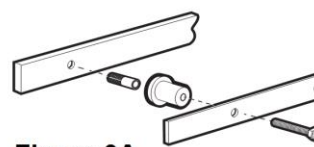

Figure 3A
Drill pilot hole. Insert lag bolt (X) through the first track hole, then place the track spacer (S) through the bolt on back of the track. Install the lag bolt with 1/2" socket ratchet. Do not tighten fully. Swing the track up and use the level to ensure the track is straight. Mark the remaining holes in the track. Drill remaining pilot holes. Slide the stopper (T) onto the track for the end of the track where you installed the first bolt so it is between the first and second holes on that end of the track. Install the next bolt and spacer at this end of the track. Install the remaining bolts and spacers. Go back and fully tighten the first bolt. Slide the remaining stopper onto the other end of the track. Do not set either stopper at this point. Refer to Figures 3A, 3B & 3C.